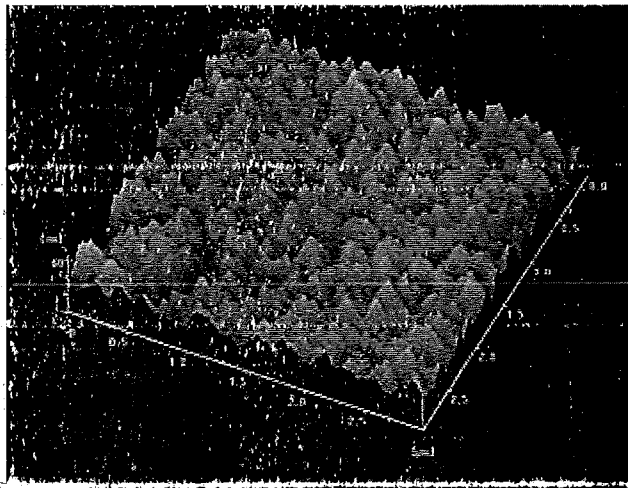

Figure 1: Image showing ZnO hydrophobic coating on glass surface
- [b]. Identify and explain the best microscopy technique available to observe surface topography, depth profiling and hardness at atomic level for the image shown in Figure 1.